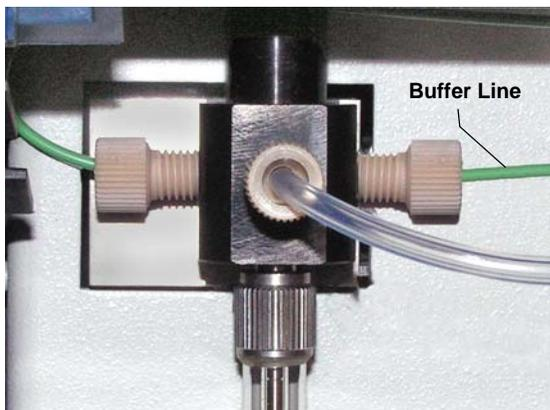

Figure 5-18. Buffer Line Connected to the Syringe Valve
3. Disconnect the buffer line from the syringe valve (see Figure 5-18). Remove the fitting bolt and ferrule.